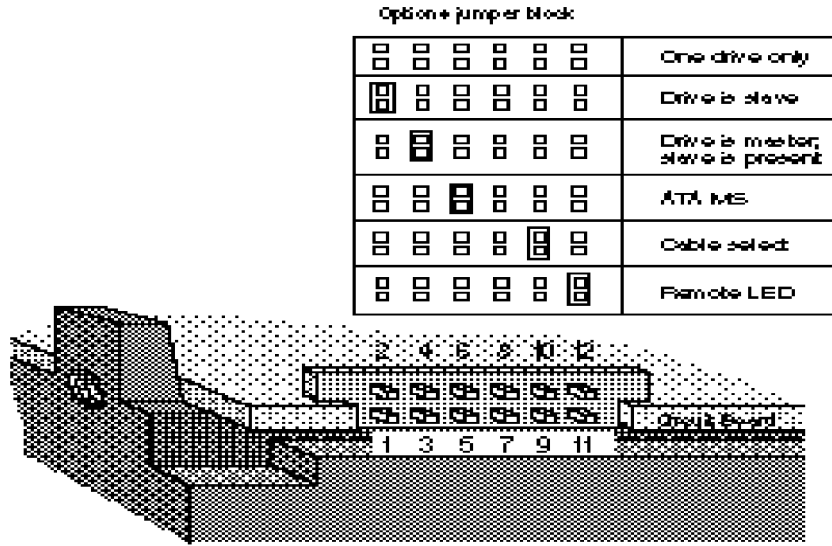

Figure 4. Configuration settings
The jumper settings for these options are shown in Figure 4 on page 20. A spare shunt is attached to pins 2 and 4. This pin combination does not affect any drive function. If you need additional shunts, use Seagate part number 10562-001 or an equivalent.
- Install shunts on pins 9 and 10 as shown in Figure 4 on page 20.